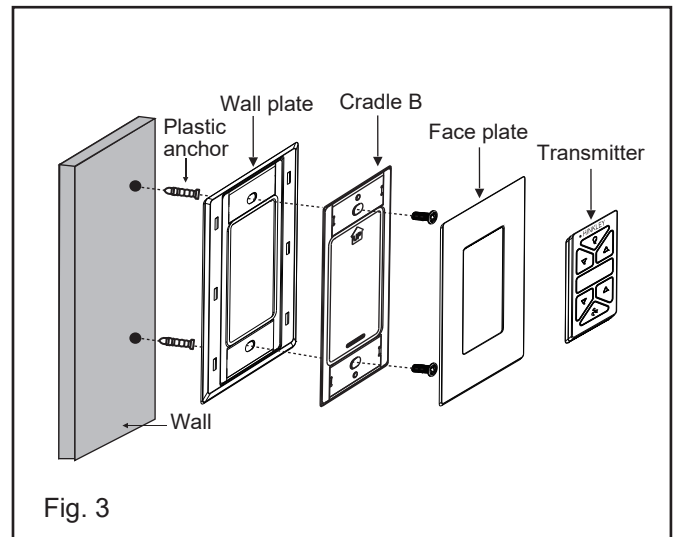

Fig. 3
1. Select a desired location. Use the wall plate to mark the location of the mounting holes. Plastic wall anchors or mounting screws are needed for this application. (Fig. 3)